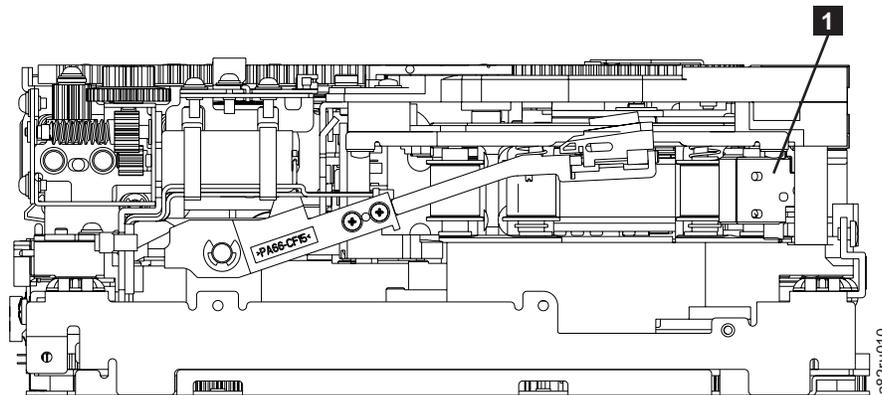

Figure 8-80. Leader Block Assembly (LBA)
10. Rotate the threader motor worm gear (4 in Figure 8-79 on page 8-84) to turn the threader mechanism gear (6 in Figure 8-79 on page 8-84) counterclockwise. This moves the LBA out of the cartridge and past the read/write head. Stop this rotation when the LBA is near the tape guide roller nearest the rear of the drive shown as 1 Figure 8-80.